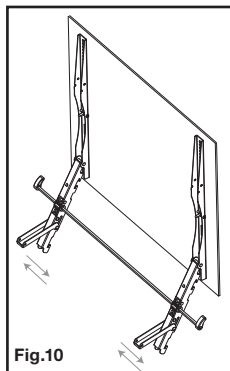

Fig. 10
6. Place the opened arms over the back of your display. Adjust the arms along the length of the tilt adjustment rod so that they line up with the mounting holes on back of your display. The hinges on the arms should be located towards the bottom of the display (see Fig. 10).